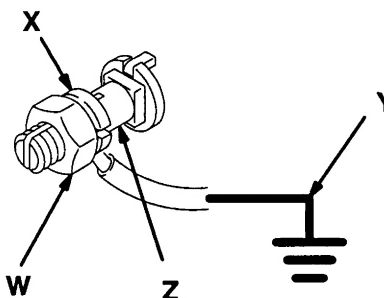

Fig. 1
1. *Pump*: use a ground wire and clamp as shown in Fig. 1.
To ground the pump, loosen the grounding lug locknut (W) and washer (X). Insert one end of a 1.5 mm2 (12 ga) minimum ground wire (Y) into the slot in lug (Z) and tighten the locknut securely. See Fig. 1. Connect the other end of the ground wire to a true earth ground.